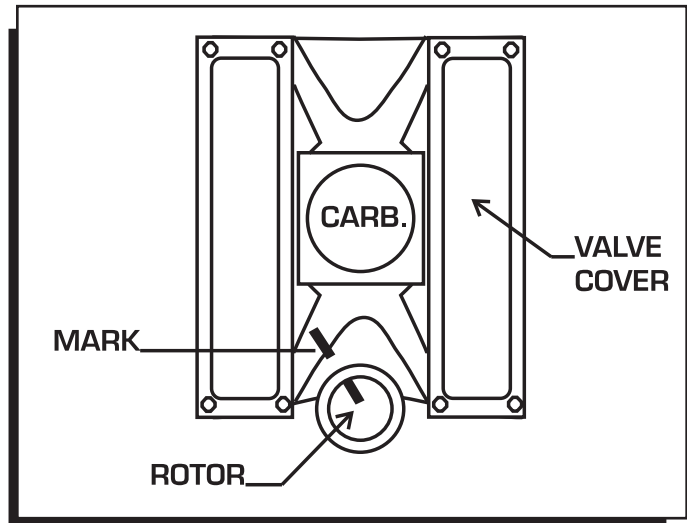

Figure 10 Marking the Rotor Location.
2. With the cap off, crank the engine until the rotor is aimed at a fixed point on the engine or firewall. Note this position by making a mark (Figure 10).